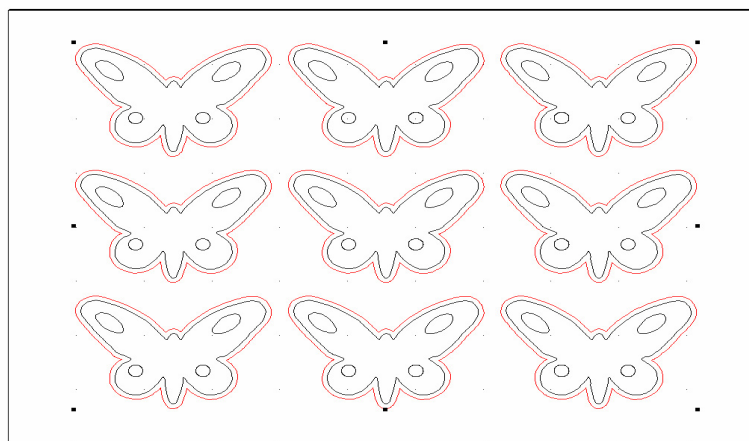

Figure 128
- 5 Click **OK**. The page fills with the image, as shown in figure 128.